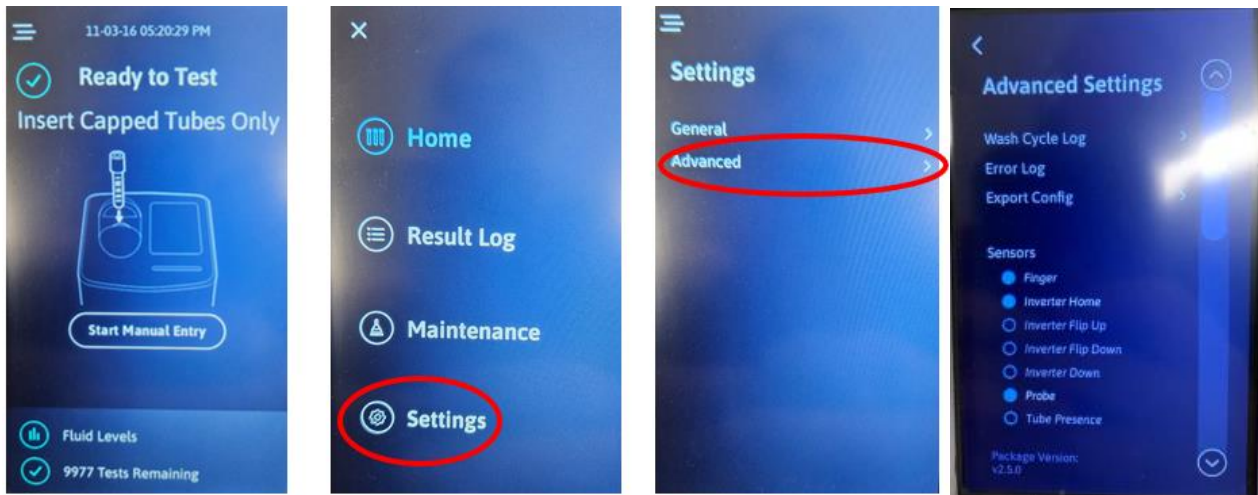

Figure 1
1.1. Navigate to Menu>Settings>Advanced Settings>Export Config per Figure 1.